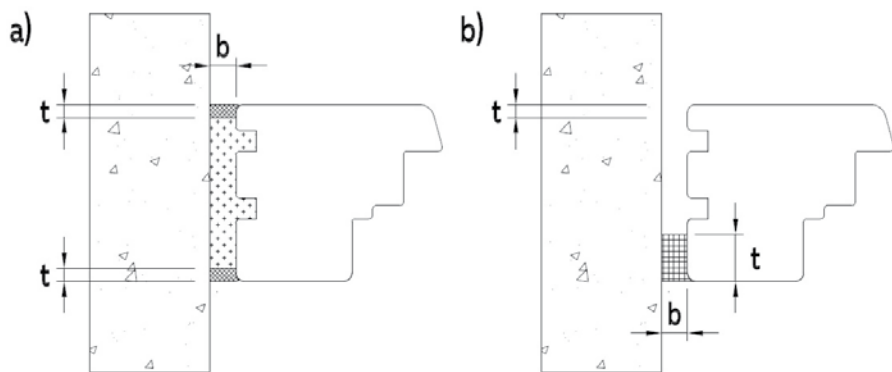

Fig. 6. Sealing Dimensions:
- a) for permanently elastic sealants (e.g., silicone), the depth of the sealing layer "t" should be at least half the width of the gap "b", but not less than 6 mm (see Fig. 6, p. 10).
- b) for impregnated vapor-tight expanding tapes, dimensions must be selected appropriately to the gap size (see Fig. 6, p. 10).